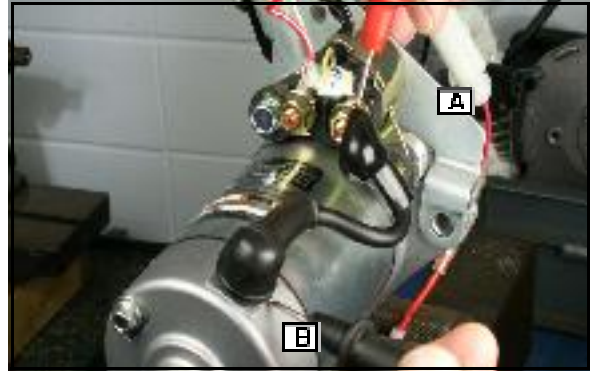

Fig. 59
5. Test for continuity at the output terminal (A) of the solenoid with the key in the **START** position and ground (B) Fig. 59).